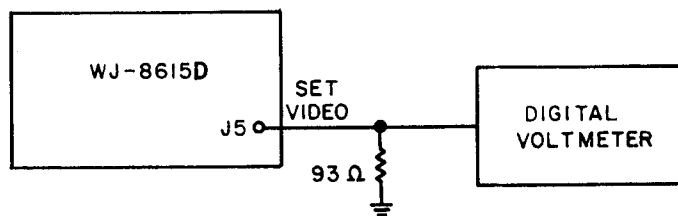

Figure 4-24. Video Alignment, Equipment Connections
- 9) Connect the test equipment as illustrated in **Figure 4-24**. Select a bandwidth greater than 300 kHz. With no signal input adjust (A1A9) R58 for a 0 V reading at J5.